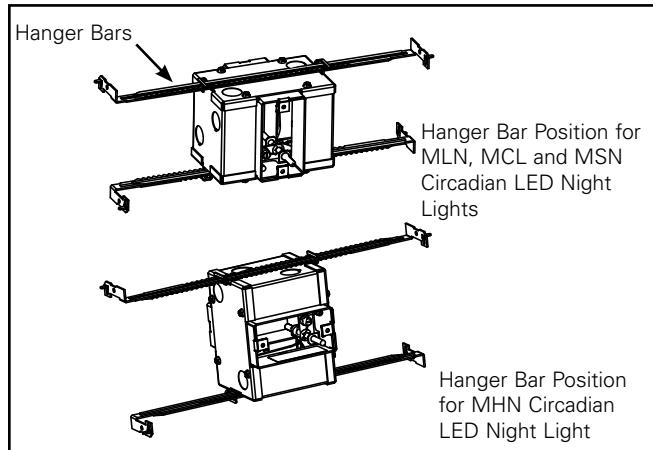

Figure 1.
1. Assemble hanger bars to junction box as shown (Figure 1).